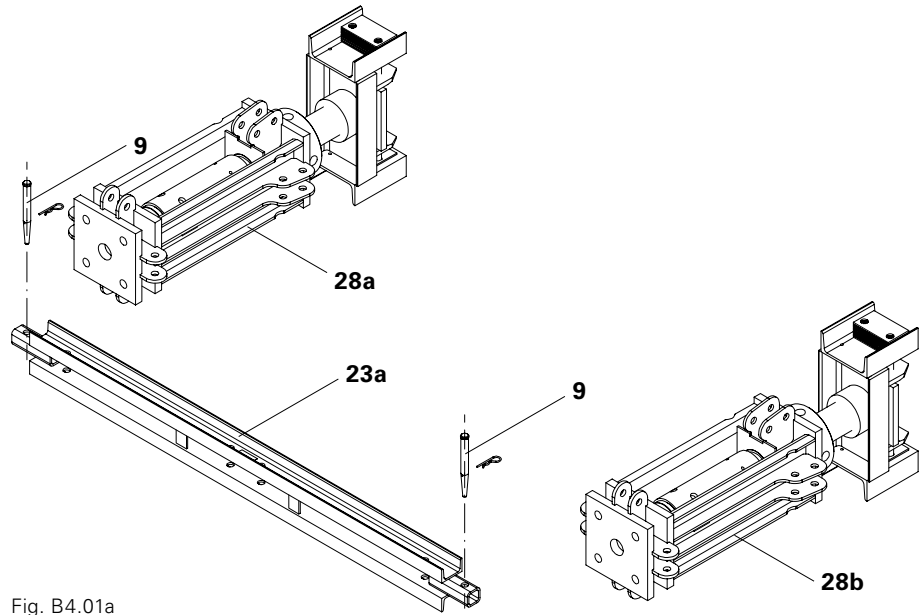
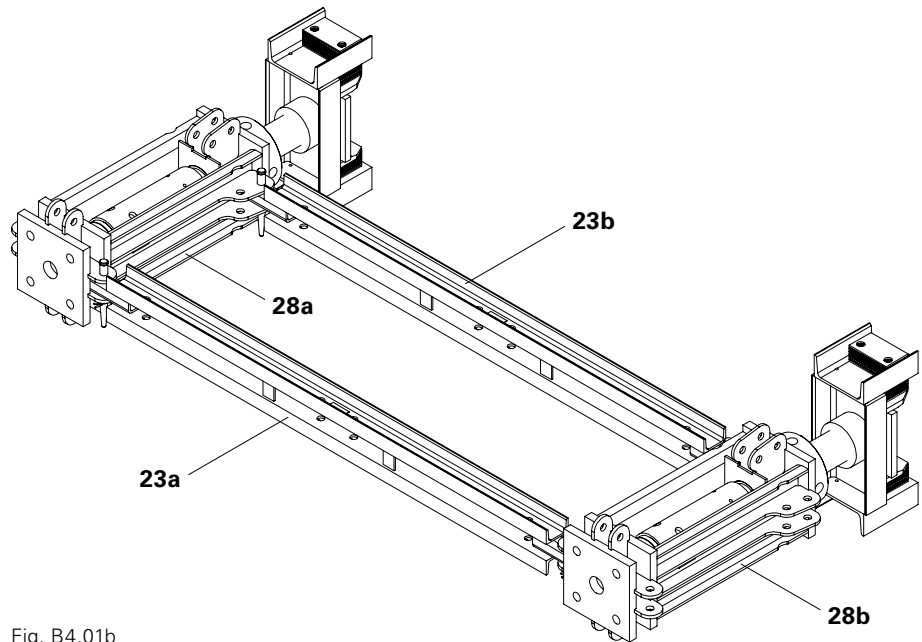

Fig. B4.01a
Fig. B4.01b
1. Place Head Spindles VST 100 (28) on timbers.
2. Connect the bottom Horizontal Ledger VST 200 (23a) to the first Head Spindle VST 100 (28a) using 1x Fitting Pin \varnothing 21 mm (9) and secure with Cotter Pin 4/1, galv.
3. Connect the bottom Horizontal Ledger VST 200 (23a) to the second Head Spindle VST 100 (28b) using 1x Fitting Pin \varnothing 21 mm (9) and secure with Cotter Pin 4/1, galv. (Fig. B4.01a)
4. Connect the top Horizontal Ledger VST 200 (23b) to the first Head Spindle VST 100 (28a) using 1x Fitting Pin \varnothing 21 mm (9) and secure with Cotter Pin 4/1, galv.
5. Connect the top Horizontal Ledger VST 200 (23b) to the second Head Spindle VST 100 (28b) using 1x Fitting Pin \varnothing 21 mm (9) and secure with Cotter Pin 4/1, galv. (Fig. B4.01b)